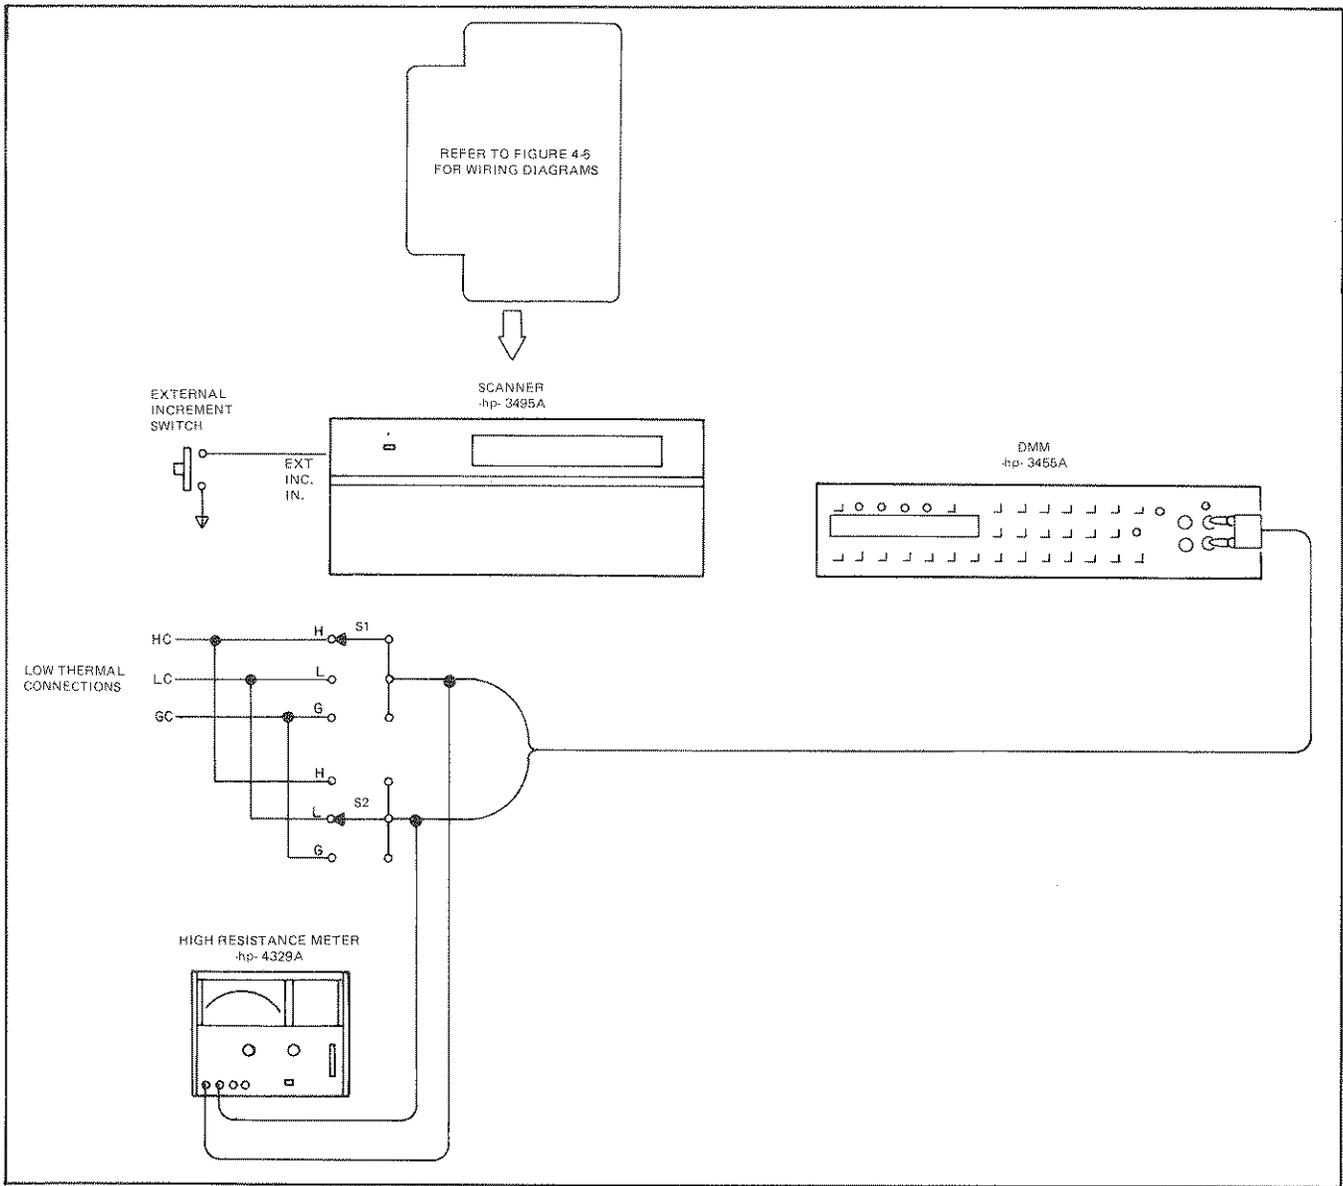

Figure 4-6. Channel Isolation Test Setup.
as determined by the Select Switches S1 and S2 in Figure 4-6.
- DPDT Switch (2) (-hp- 3101-1235)
a. Connect the test setup as shown in Figure 4-6. Use the proper value for  $R_S$  as shown in Table 4-2.